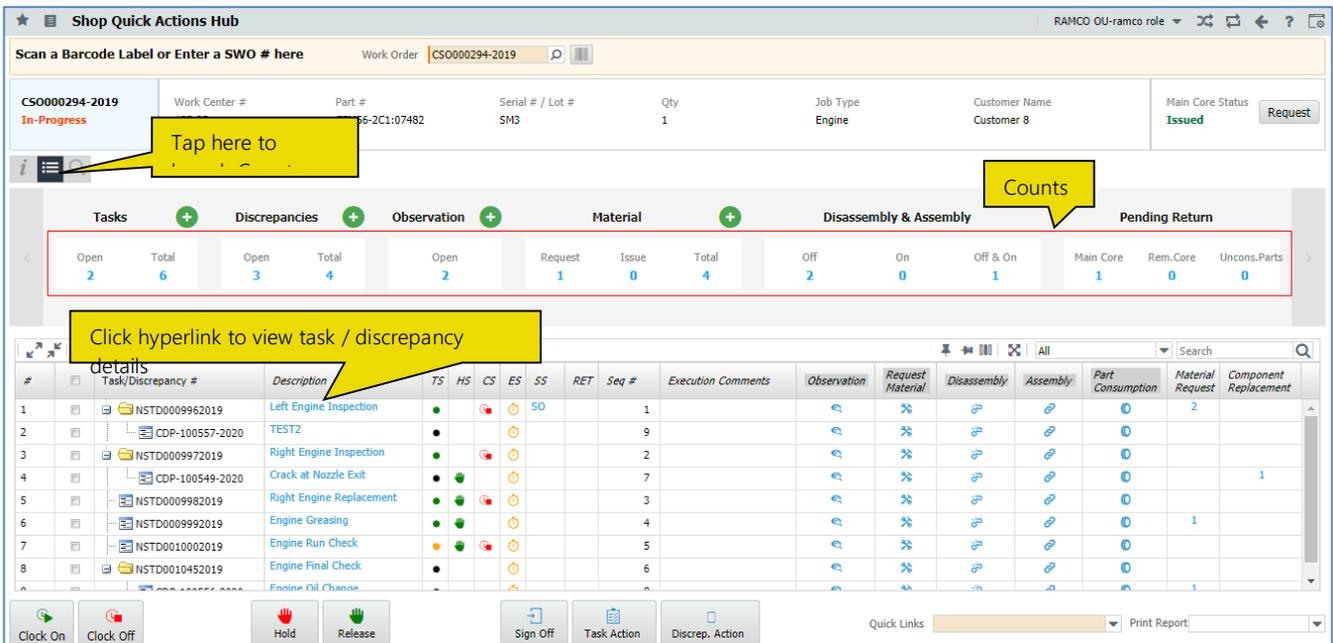

Figure 2.3 The Counts tab
1. Click the icon to open the **Counts** section. The Counts tab appears. *See Figure 2.3.*